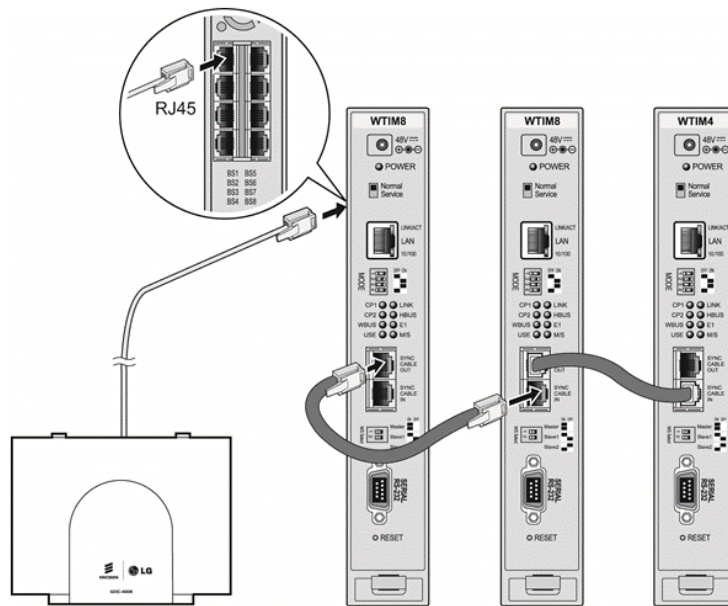

Figure 6.15-1 Cascading connections of WTIM4/8
When multiple WTIMs are installed and handover between Base Stations (GDC-600BEs) is required, the WTIMs must be interconnected. Up to three (3) WTIMs may be interconnected to allow handover between the connected Base Stations. Wiring for this connection is shown in Figure 6.15-1 below. The WTIM interconnection is a separate connection not provided by the back panel, thus, even when the WTIMs are installed in a cabinet the interconnection of the WTIMs is required.
- Wire “Sync Cable Out” directly to the “Sync Cable In” of the next WTIM as shown in Figure 6.15-1 below.